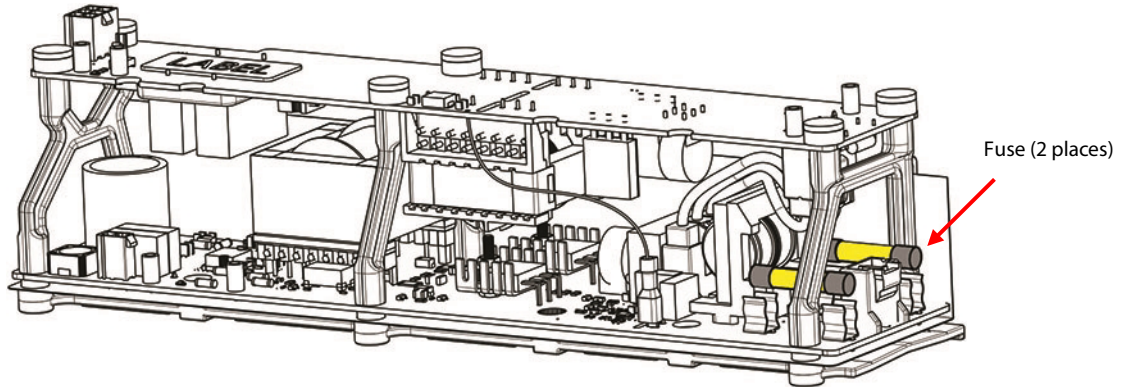

Figure 3 – Fuse Removal
5. Remove both fuses. Refer to Figure 3 – Fuse Removal.